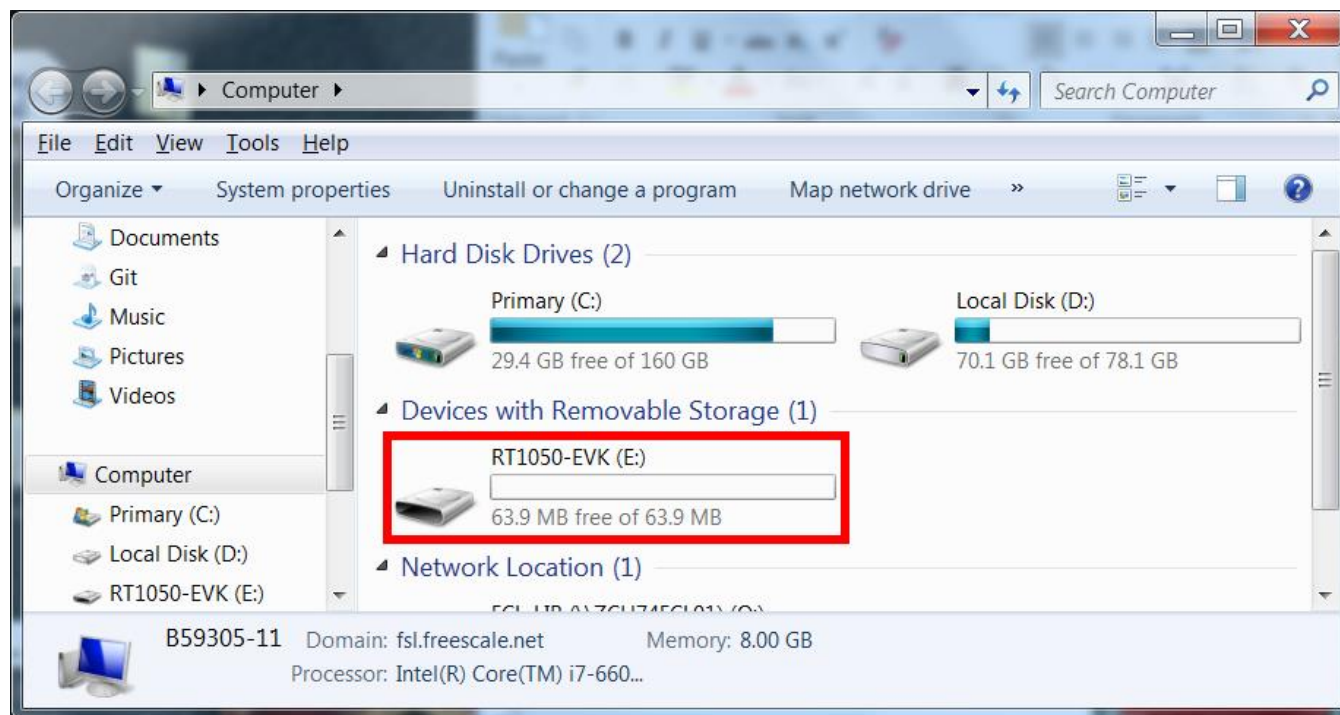

Figure 8. RT1050-EVK appeared
- Power up the board by connecting USB Debug Cable to J28 and open windows explorer and confirm that a U-Disk appears as a drive like Figure 8.